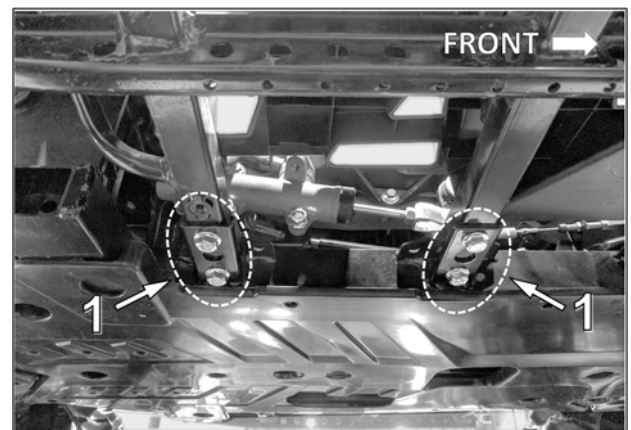

Fig. 3
- Remove the 4 footrest subframe assembly bolts (1) that are closest to the rear. See Fig. 3